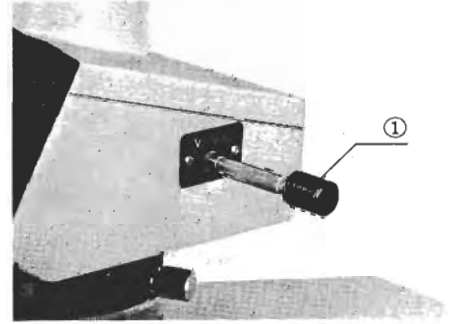

Fig. 9
The trinocular tube is provided with a light path selector knob ① to direct the light to the observation tube and/or to the photo tube in 3 positions. (Fig. 9)